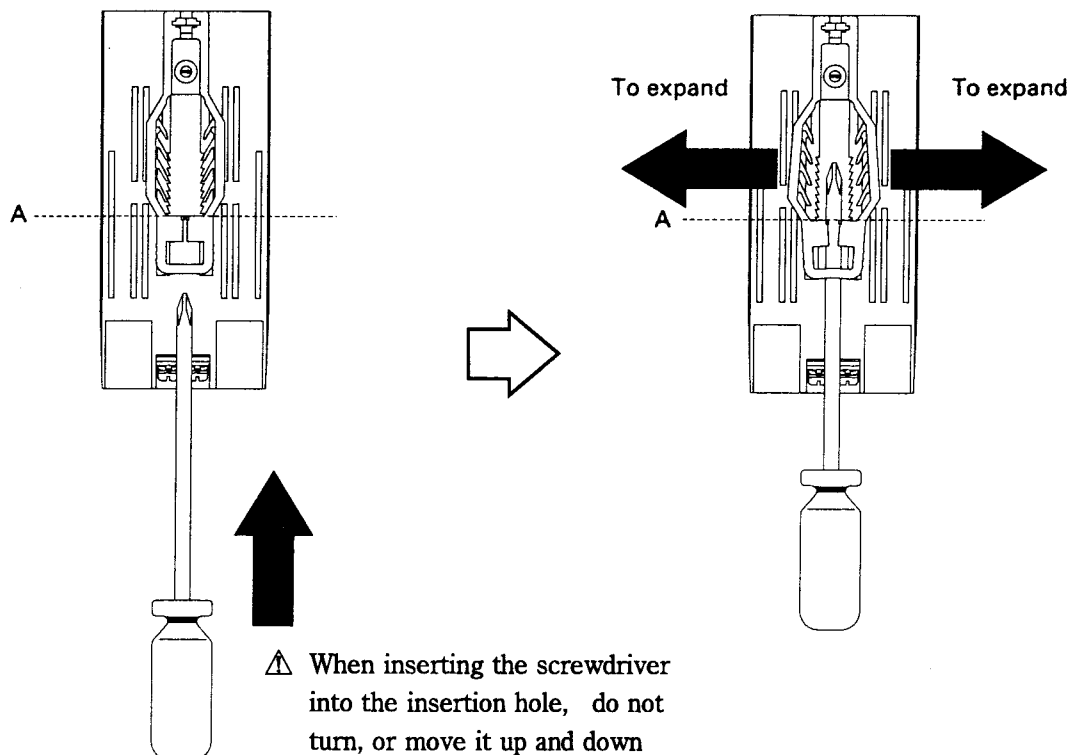

Fig.3
- ① Insert a Phillips screwdriver into the insertion hole at the rear of the mounting bracket. If the screwdriver head exceeds the line shown by A, the bracket expands to the left and right to disengage the self-locking hooks on the bracket from those on the case. [Fig.3]